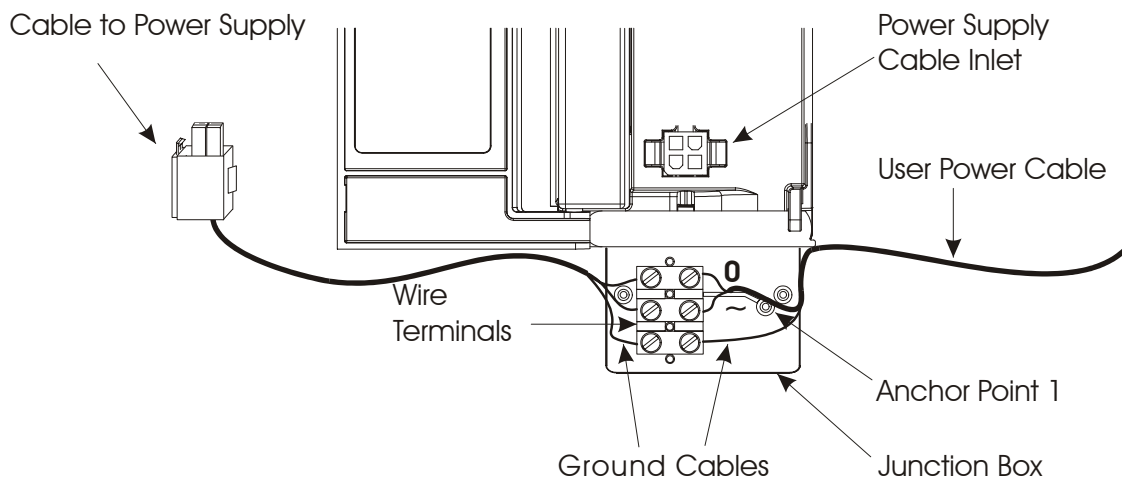

Figure 2-14 RTU Power and Ground Connections - No I/O Frame Installation
- 3) Attach the wires of the user cable, according to the labels (~0 for AC and +/- for DC.) For the No I/O Frame, connect the ground cable to the lower wire terminals (third pair). Figure 2-14 and Figure 2-15.
- 5) Attach the wires of the user cable, according to labels (~0 for AC and +/- for DC.) See Figure 2-14 and Figure 2-15. For the No I/O frame, connect the ground cable to the lower wire terminals (third pair).